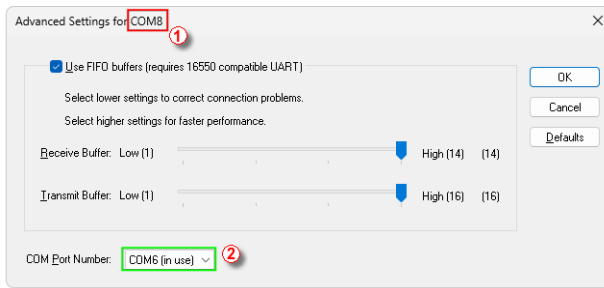

Fig. 12: Advanced Settings
- Fig. 12** on pg. 13. displays the *Advanced Settings* for specific **COM** port. ① To change **COM** port from the default, choose a **COM** port at ② using the drop-down list.